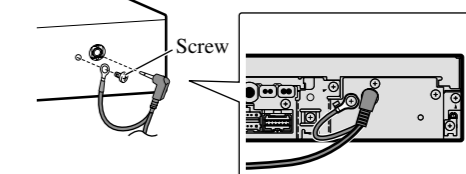

Fig. 7
1. Connect the optical cable and ground lead to the main unit. (Fig. 7)